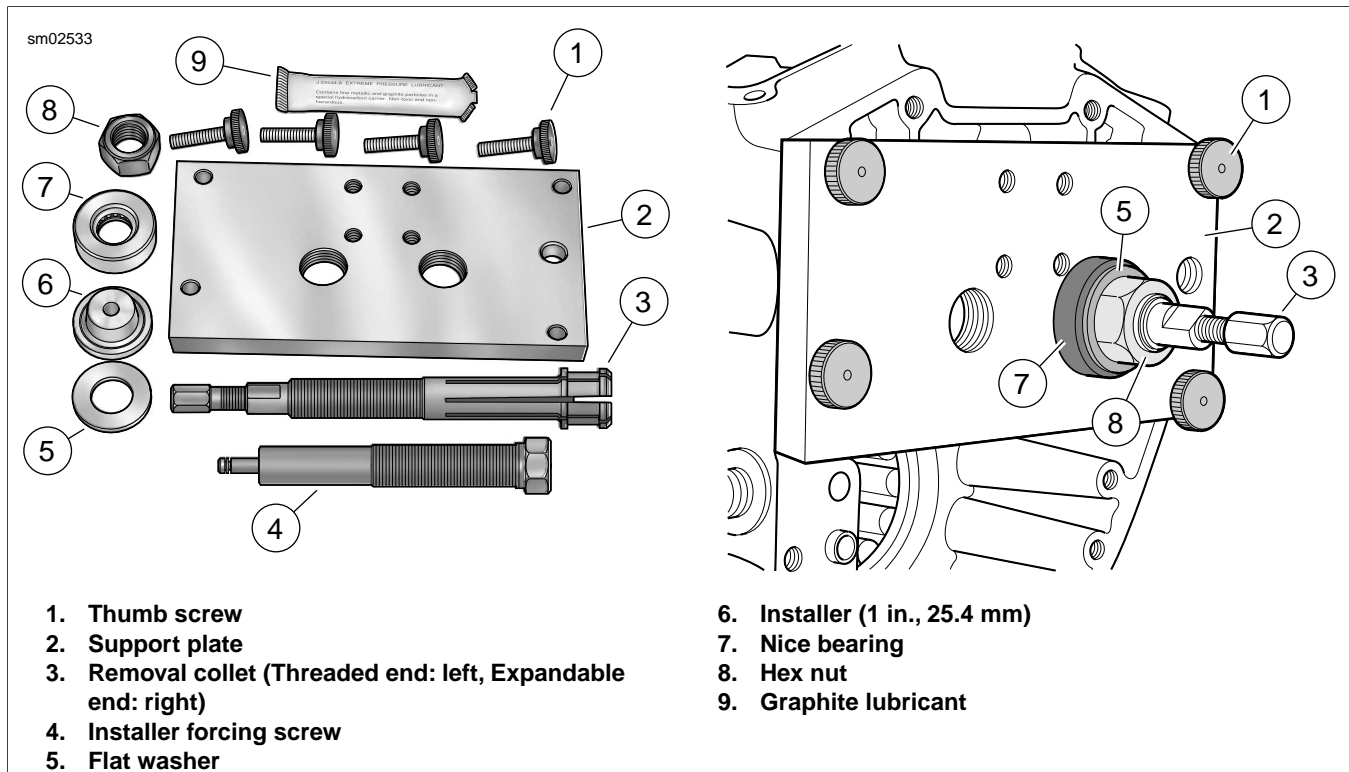
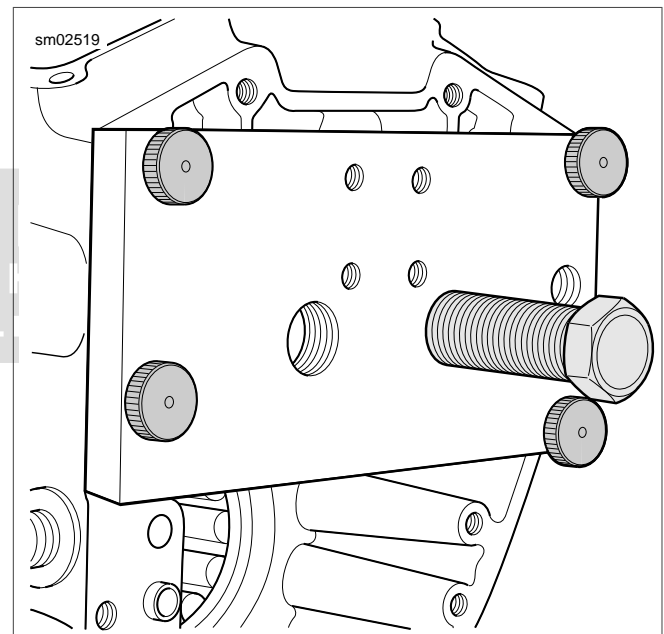

Figure 3-115. Camshaft Needle Bearing Remover/Installer (Part No. HD-42325-A)
Figure 3-118. Installer Forcing Screw Installation
- See Figure 3-115. Remove four thumb screws (1) from threaded holes in support plate (2), if installed.
- Sparingly apply graphite lubricant (9) to threads of collet (3) to prolong service life and verify smooth operation.
7. Center expandable end of collet in bearing bore and slide Nice bearing (7) and flat washer (5) on threaded end. Start hex nut (8) on threaded end.
3. See Figure 3-115. Sparingly apply graphite lubricant (9) to threads of installer forcing screw (4) to prolong service life and verify smooth operation.
4. Thread installer forcing screw into stamped side of support plate (2) until threads begin to emerge from opposite side.
5. Place installer (6) at end of installer forcing screw.
7. See Figure 3-118. Aligning two large holes in support plate with needle bearing bores, hang right side of plate on ring dowel in crankcase flange.